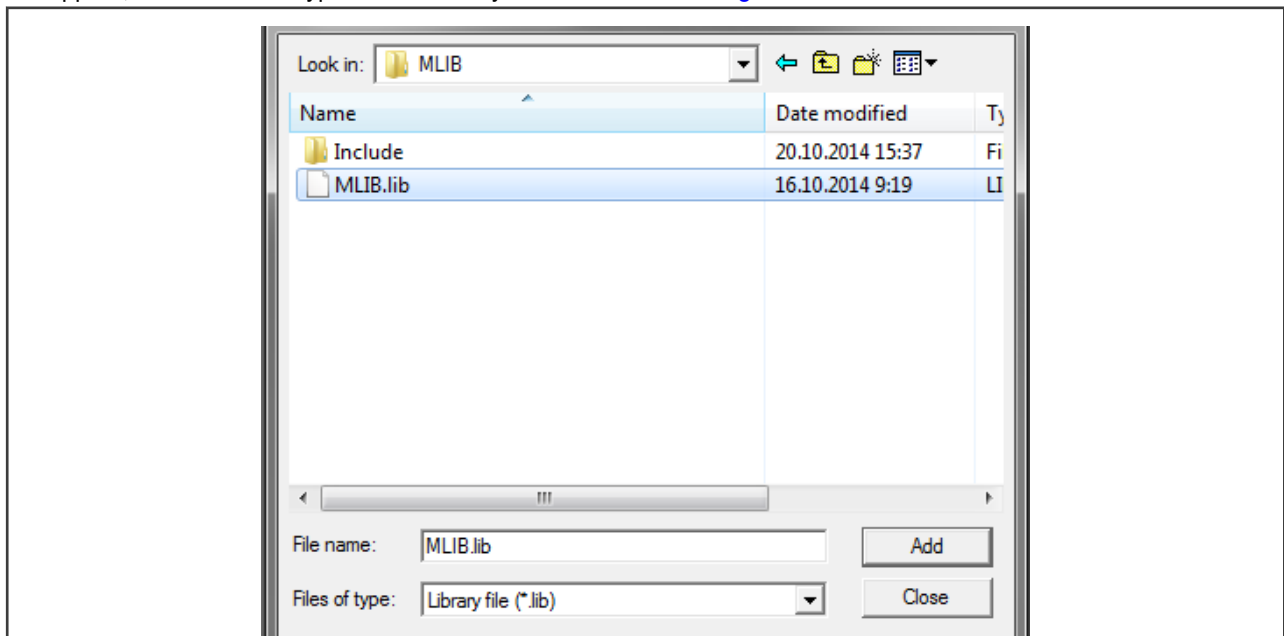

Figure 15. Adding .lib files dialog
- Navigate to the parent folder C:\NXP\RTCESL\CM7F\_RTCESL\_4.7\_KEIL\MLIB, and select the *mlib.lib* file. If the file does not appear, set the Files of type filter to Library file. Click Add. See Figure 15.